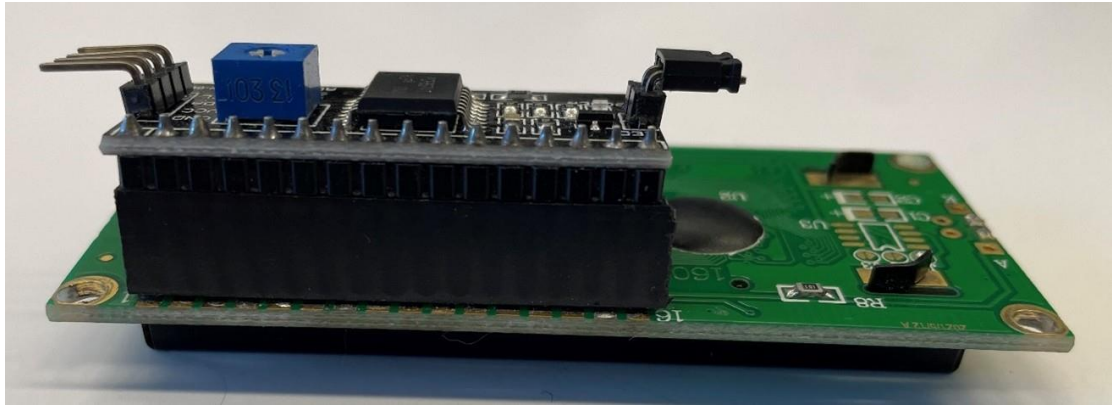

Figure 1.4- I2C LCD Assembly
3) Connect the I2C adapter to the LCD screen (Figure 1.4).